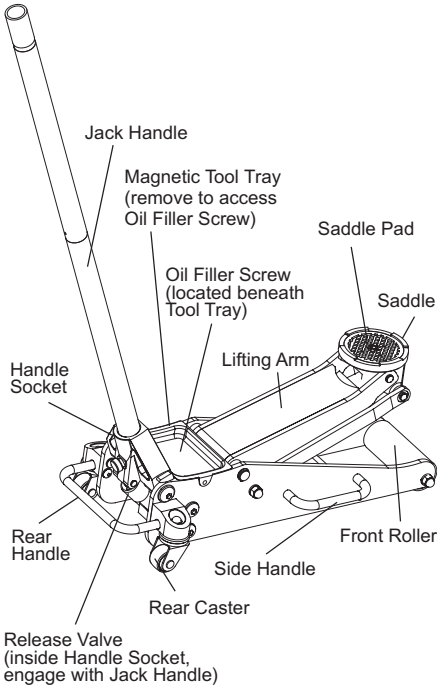

FIG. 3
Compare Fig. 3 illustration with your jack BEFORE operation to become familiar with the location of various jack components.
- Close the release valve by turning the jack handle clockwise until tight. (see Fig. 3)
- Refer to the vehicle manufacturer's owner's manual to locate approved lifting points on the vehicle. Position jack so that the saddle (see Fig. 3) is centered under the load at an appropriate lift point.
- Position the jack on level ground and fully lower the saddle. (Ram will be all the way in). Remove oil filler screw located under tool tray (see Fig. 3 & 4).